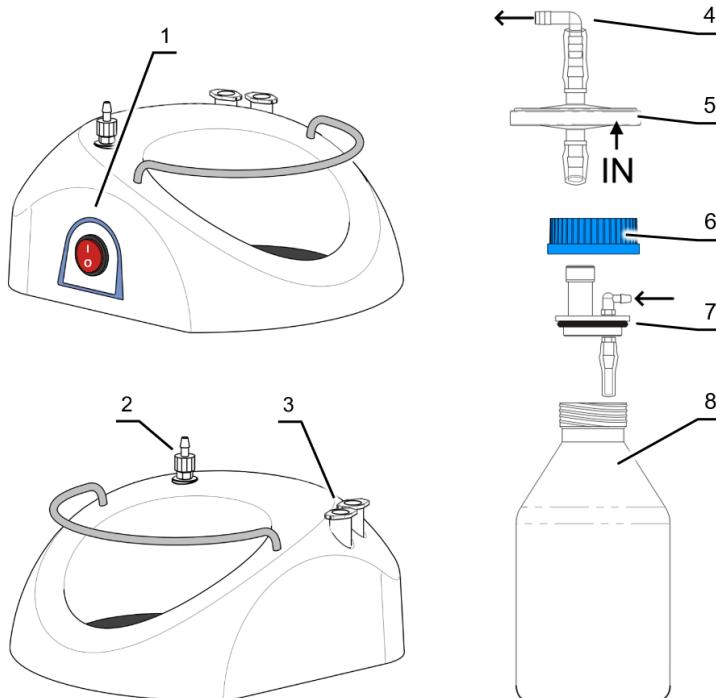

Figure 1. FTA-1, base and bottle.
Microtube placements on FTA-1 , see fig. 1/3
- Install the trapping flask (fig. 1/8 or 3/2) on the unit.
- Attach and secure the lid (fig. 1/6 or 3/1). Check that the lid has the insert with fittings and connectors.
- Place the microtubes for aspiration tip into the holder (fig. 1/3 or 3/3).
4.3.1. **Optional MA-8 aspiration tip installation.** Remove microtubes and aspiration tip from the holders on the base (fig. 1/3 or 3/3). Place **MA-8** storage holder (fig. 8/1B) into the base unit. Replace the aspiration tip (fig. 2 or 5/1) with the **MA-8** aspiration tip. Store the aspiration tip in the new holder.
5.2. Turn the **Power** switch (fig. 1/1 or 7/2) to the position **I** (on). The pump starts working.